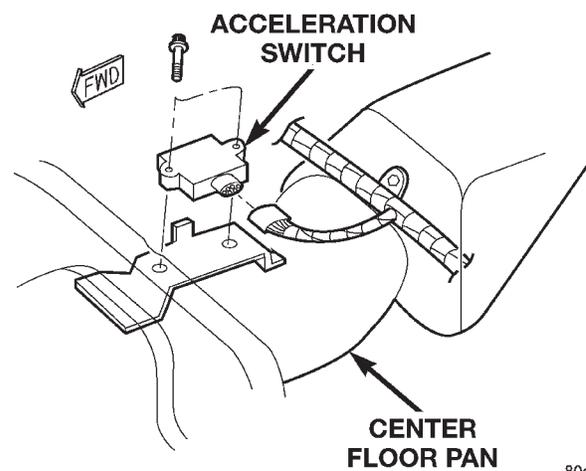

Fig. 12 Acceleration Switch Mounting
- (1) Turn ignition switch to the OFF position.
- (2) Disconnect battery negative cable.
- (3) Fold the rear seat bottom assembly up for access to the switch.
- (4) Lift up the carpeting and disconnect switch harness (Fig. 12).
- (5) Remove bolts attaching switch to bracket and remove the switch.